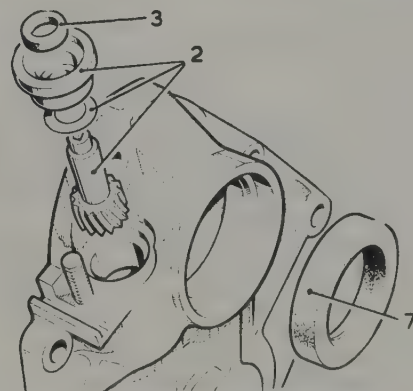

Fig. 6.31. Speedometer drive components
- 2 Withdraw the nylon housing, thrust washer and drive spindle "2" (Fig. 6.31).